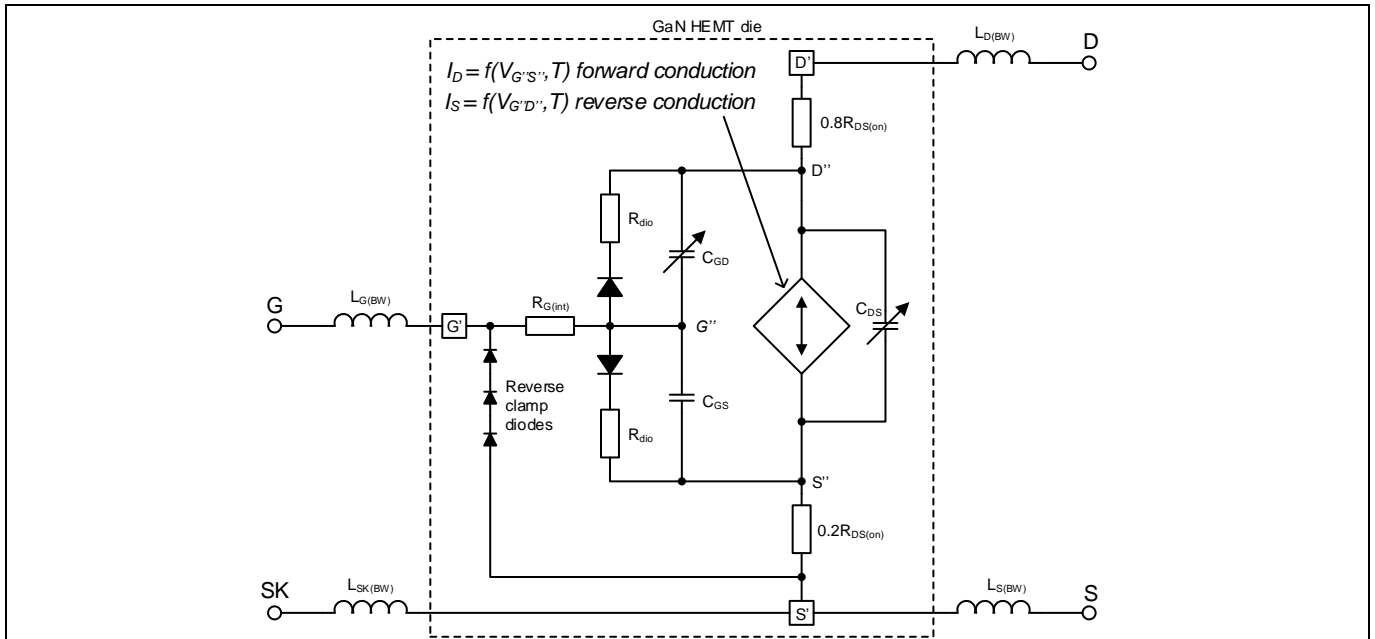
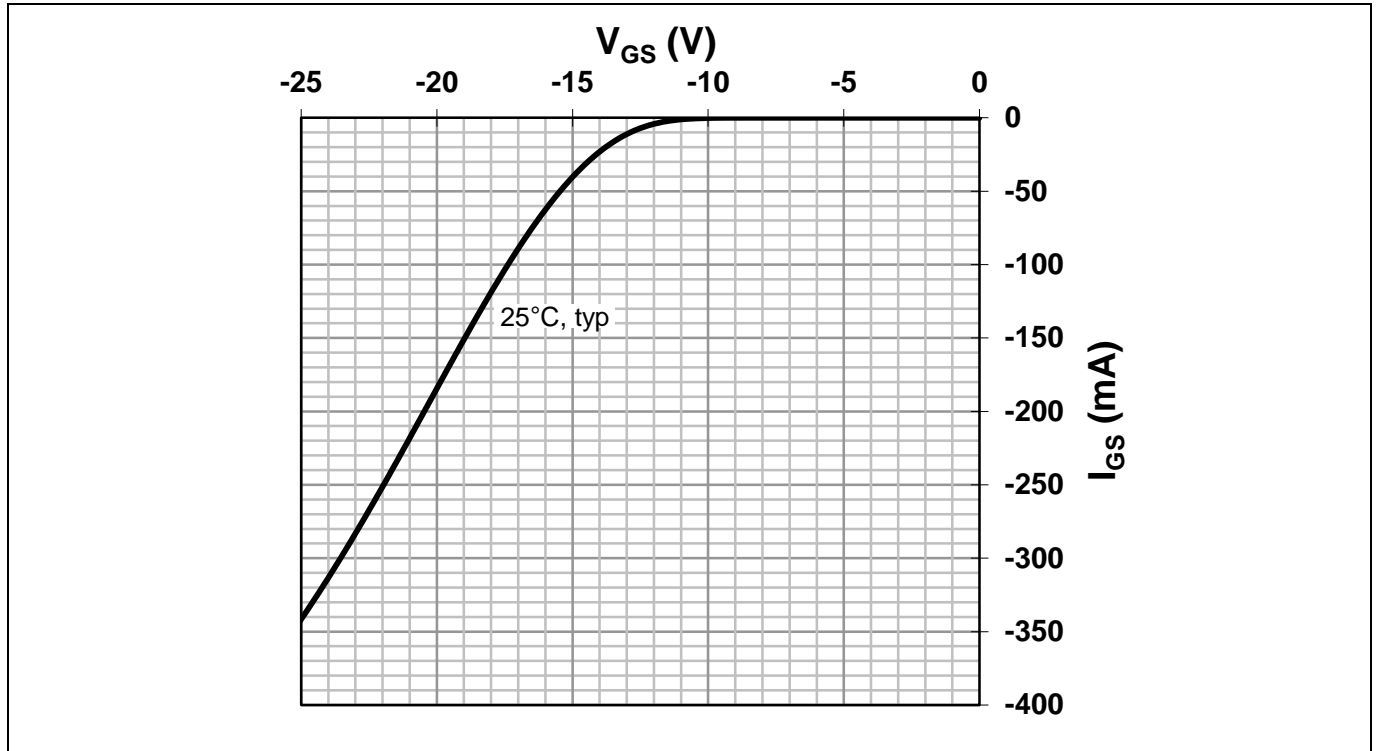

Figure 2 Electrical model of a p-gate GaN HEMT
Figure 6 70 mΩ HEMT gate reverse characteristics, open drain
In its simplest form, the GaN HEMT can be thought of as a resistor whose conductivity is controlled by an applied gate voltage – in many ways, very similar to a MOSFET. A more detailed equivalent circuit is shown in Figure 2. The heart of this model is a bidirectional current source between D' and S'. This current source represents the current conducting channel (2DEG), which is enhanced or depleted depending on $V_{G'S'}$. Assuming a non-negative V_{DS} , when $V_{G'S'}$ is less than the threshold voltage (approximately 1.4 V), the current source is an open circuit and the HEMT is in the off-state. As gate drive is increased, $V_{G'S'}$ exceeds V_{th} and the 2DEG conducts current. When fully enhanced, the current source resistance becomes zero, and the overall on-resistance is then represented by the sum of $0.2 R_{DS(on)} + 0.8 R_{DS(on)}$.
Also note that in Figure 2, there are two source connections: one is the main source connection for high current (S), and the other is the source Kelvin connection (SK) for the gate-driver circuit. The purpose of the SK connection is to provide the gate-driver circuit with direct access to the source bond-pad. This helps to minimize common source impedance effects which can slow down the switching speed of the device, because voltage developed across the common source impedance will subtract from the applied gate voltage, thus reducing the effective gate drive.
The model in Figure 2 is similar to a traditional MOSFET with two important differences. First, the GaN HEMT has no intrinsic body diode from source to drain like a SJ MOSFET, for example. And second, the gate does have a diode structure that clamps the gate-source (or gate-drain) voltage to approximately 3.5 V. The exact voltage will vary with the temperature-dependent diode forward voltage, and the gate current running through the internal $R_{G(int)}$ plus the diode impedance R_{dio} . As a result of these impedances and shared current paths, $V_{G''S''}$, which controls the 2DEG enhancement, is a function of both gate current and drain current.
One of the biggest differences between a Si MOSFET and a CoolGaN™ HEMT is the structure and characteristics of the gate. Si MOSFET gates are insulated, so behave essentially like a non-linear capacitor. The CoolGaN™ gate is not insulated, so it does not have any dielectric breakdown voltage. The ohmic p-gate forms a GaN diode that becomes forward biased as the gate is driven in the forward direction. If the gate is driven to a negative voltage, the gate diode is reverse biased, so there is no continuous current, unless the voltage is large enough to turn on the protection diodes (see Figure 6).
(seen in Figure 2), which begins clamping at about -12 V. The peak voltage in the negative direction is also shown in the example table of Figure 4.
In Figure 6, the reverse voltage characteristic of the gate is shown. The I-V behavior is not intrinsic to the device, but due to the presence of a protection diode structure (see Figure 2 equivalent circuit) that begins clamping at about -12 V.